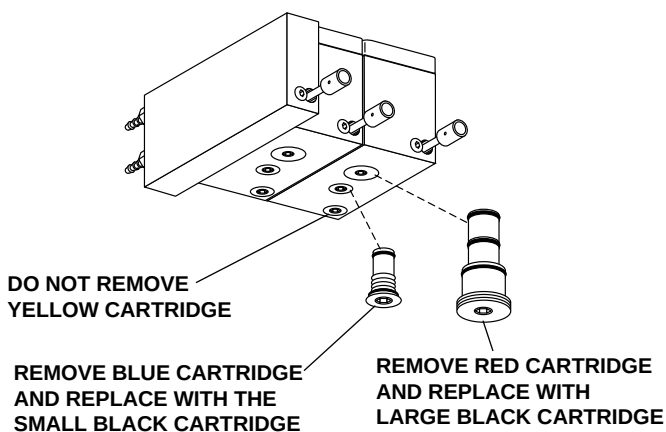

Figure 9. Handpiece Dry Block Conversion
3. Use a 3/32" hex key to remove the large red cartridge from the control block. Install the large black cartridge from the dry block conversion kit into the control block (see Figure 9).
4. Use a 3/32" hex key to remove the small blue cartridge from the same control block. Install the small black cartridge from the dry block conversion kit into the control block (*see Figure 9*).